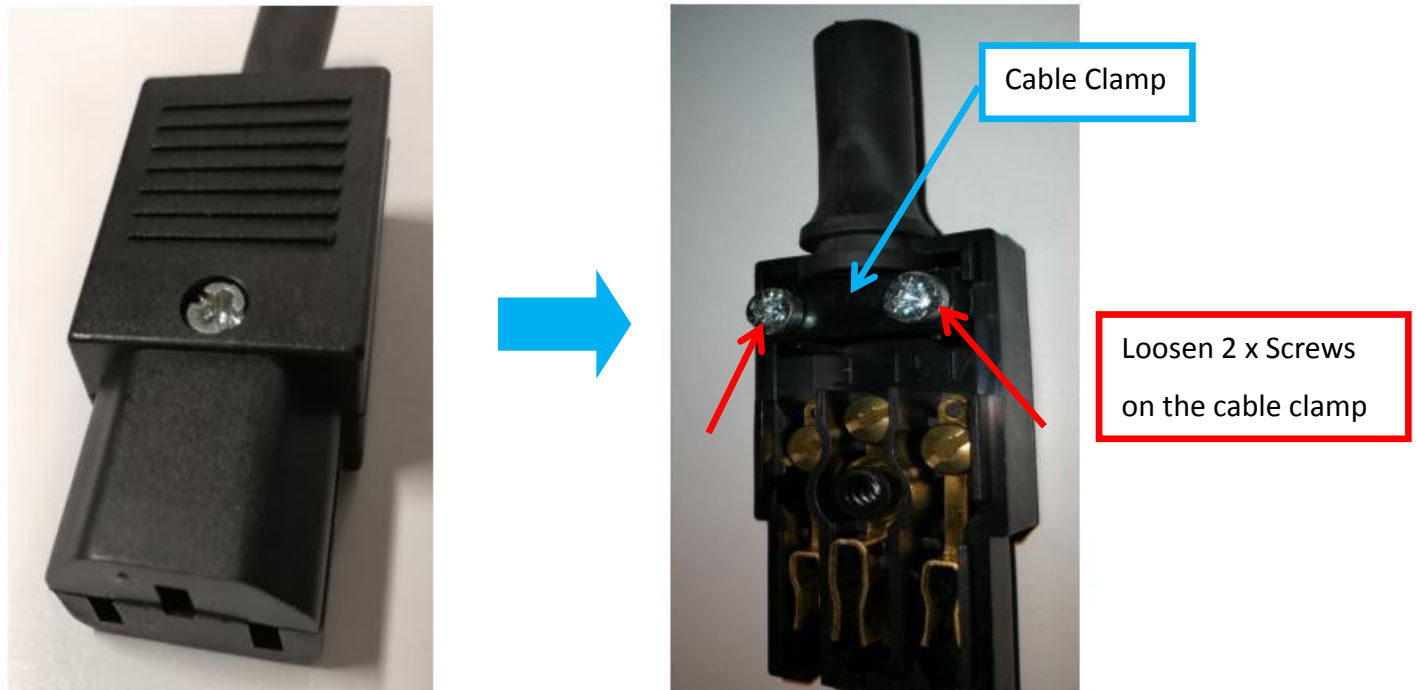

Figure 18
23. Open Insulator Cover from Vertical Type Power Connector as below Figure 18. Loosen 2 x Screws on the cable clamp & remove accordingly.